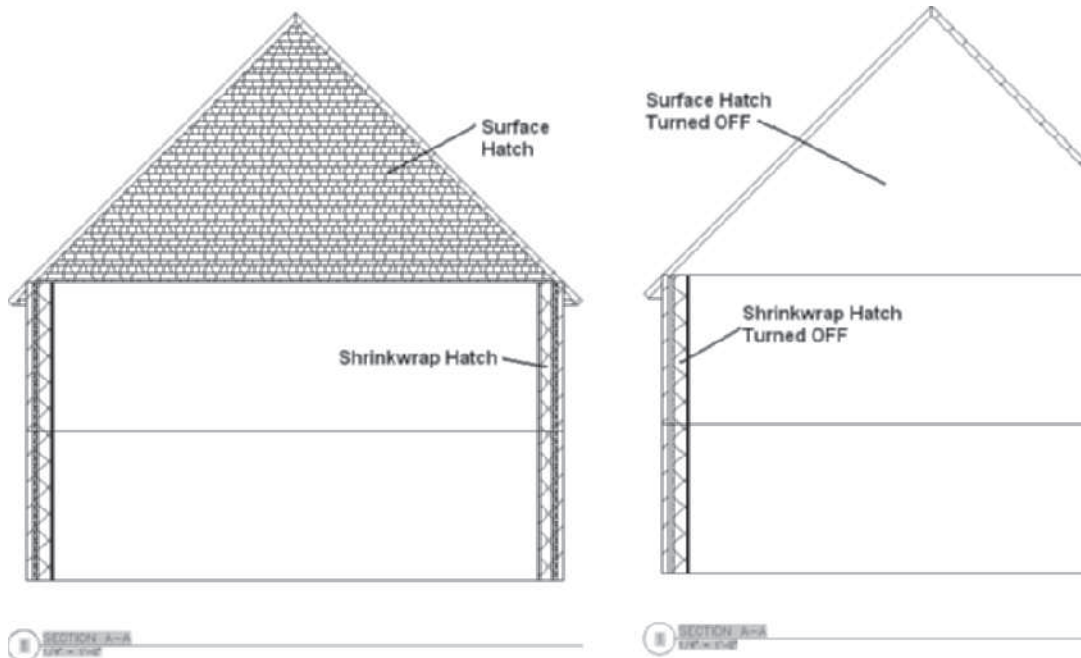
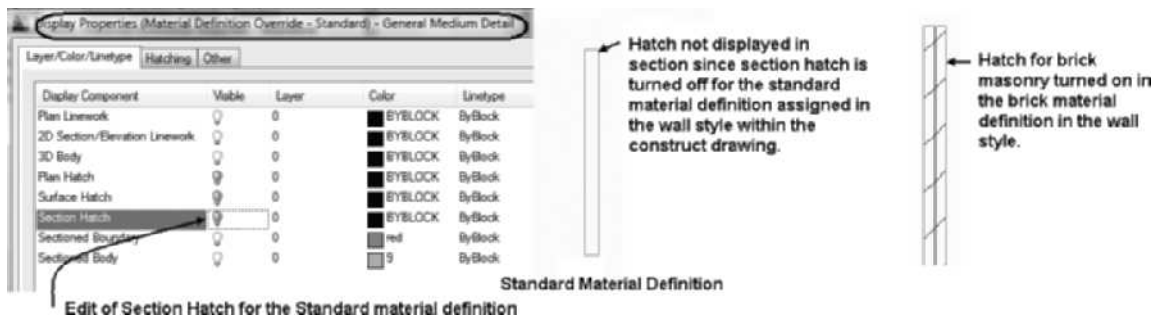

FIGURE 12.28 Section View drawing
FIGURE 12.29 Turning off section hatch in the material definition
10. Select the **Views** tab, expand the **Transverse** drawing, select the Section A-A view, right-click, and choose **Place on Sheet**. Drag the view to the sheet and left-click to position the view on the sheet. The view number is placed in the title bubble of the elevation view on the Sheet and View drawings. The Section View drawing is shown at the left in Figure 12.28.
The display components of a 2D Section/Elevation object allow you to display material hatch of a wall by turning on Section Hatch Linework. The material definition of the objects will govern the hatch pattern. The Shrinkwrap and Surface Hatch are turned off in the elevation style of the section shown at the right in Figure 12.28. The display of each object cut in the section can be controlled if you edit the display properties of each material definition used in the object style. In the section shown at the right in Figure 12.28, the section hatch is turned on in the elevation style. The section hatch can be turned off in the wall style of the Construct drawing, which will display a section of the wall without material hatch representation. In Figure 12.29 the section hatch has been turned off for the standard wall on the left, whereas the section hatch for the brick masonry wall is turned on at the right.